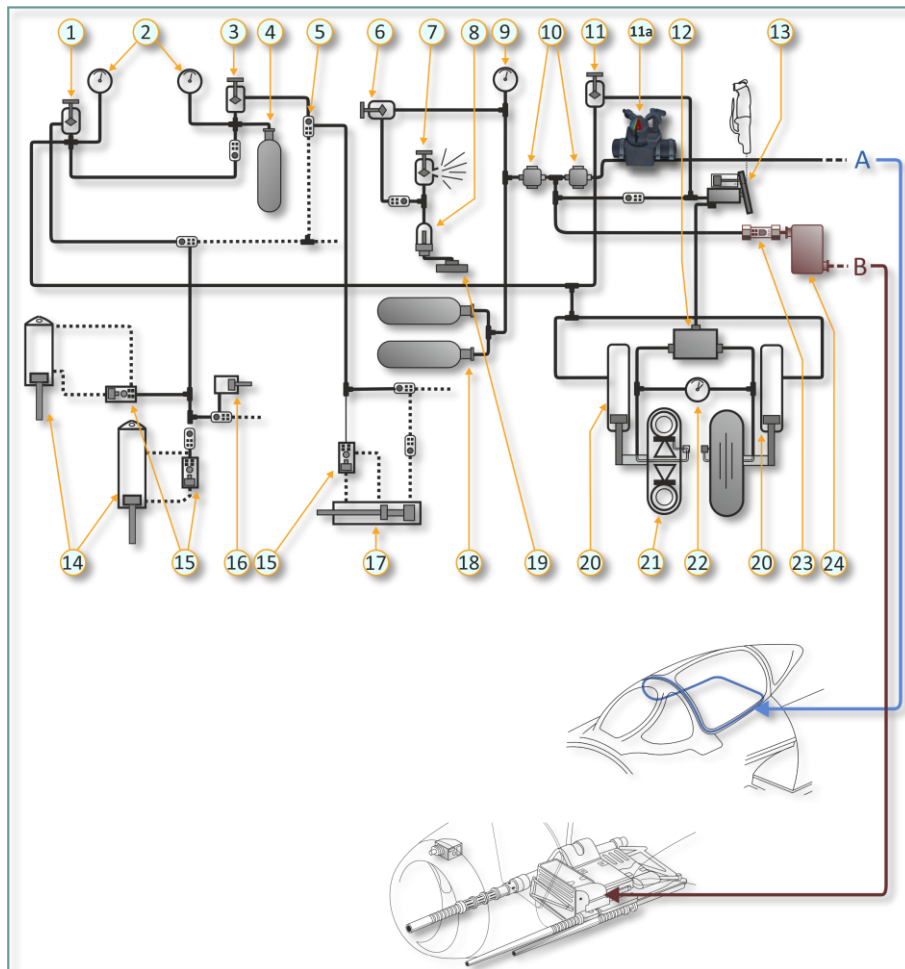

Figure 5.9. MiG-15bis pneumatic system
1. Charging valve (Figure 5.9, 6)
2. Cockpit pressurization valve (Figure 5.9, 7)
cockpit air supply valve (Figure 5.9, 11a), which opens the slide valve for filling the cockpit pressurization line with air
pneumatic system pressure gauge (Figure 5.9, 9) on horizontal panel on the right side of the cockpit
gear brake lever (Figure 5.9, 13)
pressure gauge (Figure 5.9, 22)
emergency air tank charging valve (Figure 5.9, 11)
emergency pressure gauge and gear extension valve (Figure 5.9, 2, 1)
emergency pressure gauge and flaps extension valve (Figure 5.9, 2, 3).